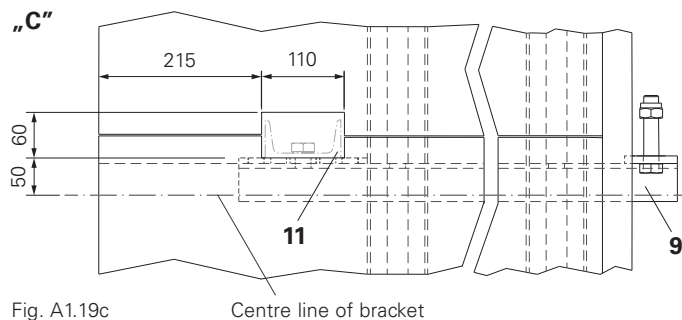

Fig. A1.19c
6. Cut out openings for the Platform Posts SCS 232 (11). (Fig. A1.19c)